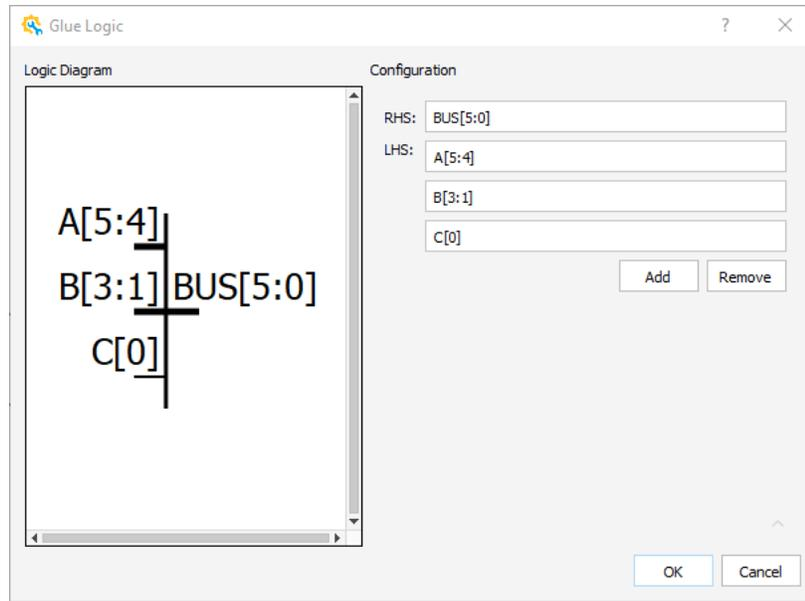

Figure 2.21. Glue Logic for Concat Module
- a. From the IP Catalog, select the **concat** module. Double-click the concat module or drag and drop concat module to the Schematic view. A Glue Logic wizard (Figure 2.21) pops up.